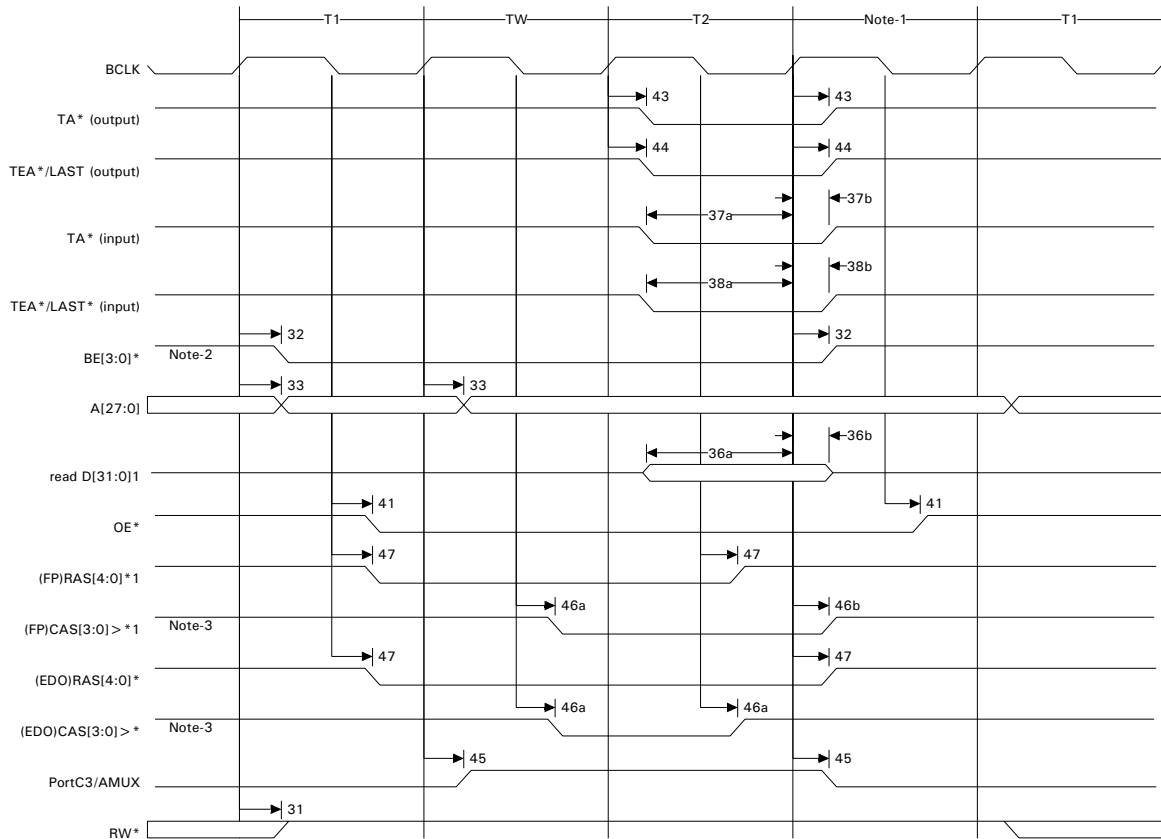
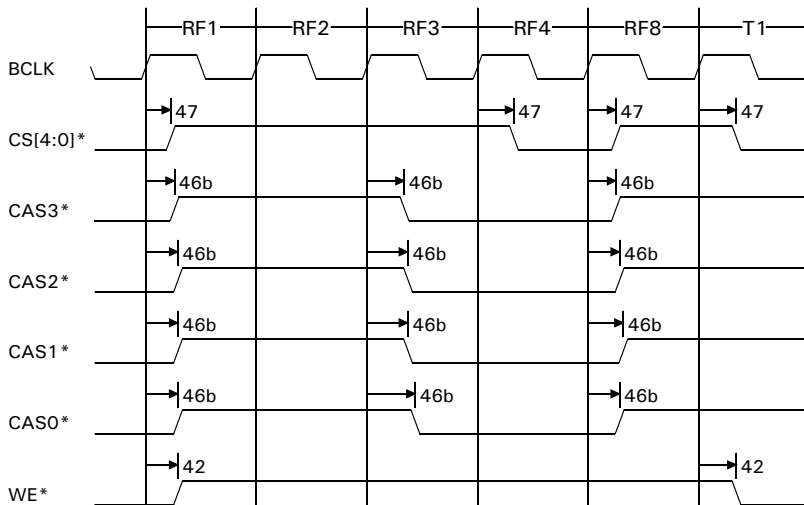

Figure 69: Fast Page and EDO DRAM Read
Figure 76: Fast Page and EDO DRAM Refresh (RCYC = 3)
Table 139 describes the values shown in the fast page (FP) and EDO DRAM timing diagrams (Figure 69 through Figure 76).